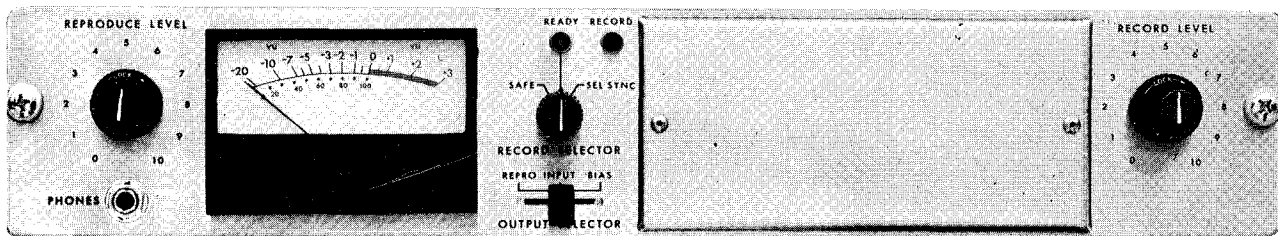

Fig. 3-2. Electronics Controls and Indicators
3.1.2 Record/Reproduce Electronic Assembly (see Fig. 3-2)